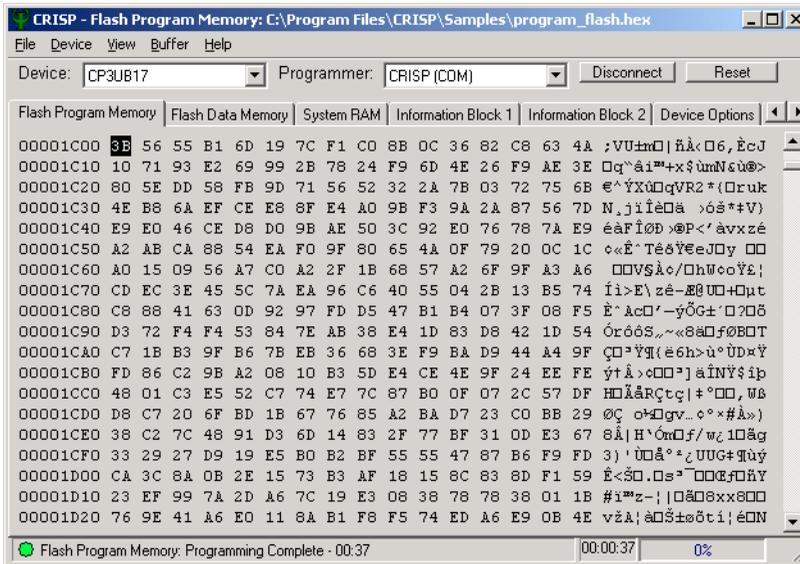

Figure 5-11. Status Bar after a Successful Flash Program
- 3. Programming Complete.** If the download was successful, the status bar's circle should have returned to its green color and display the message "Programming Complete", as shown in Figure 5-11.